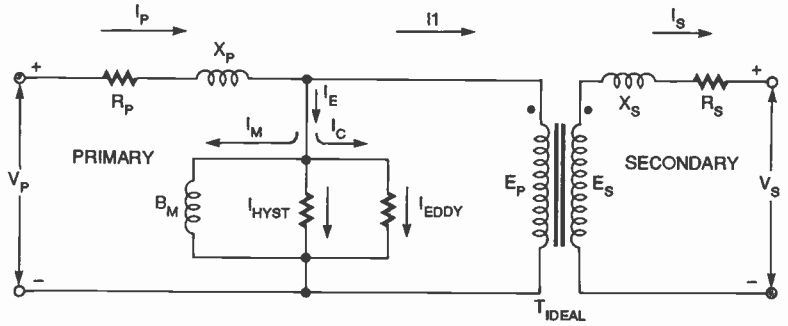

Fig. 2. This equivalent circuit for a real transformer shows us that not all of the input current produces useful output power at the secondary.
**Transformer Losses.** When a voltage is applied to the transformer primary ( $V_p$ ), the largest part of the current entering the primary winding ( $I_p$ ) goes toward creating the mmf that produces the mutual core flux, but not all of that current produces useful output power at the secondary. The remaining portion of the primary current is required to provide the core exciting current,  $I_E$ , as shown in Fig. 2, the equivalent circuit for a real transformer. The polarities shown in Fig. 2 are the instantaneous polarities of the primary and secondary waveforms of an AC transformer.